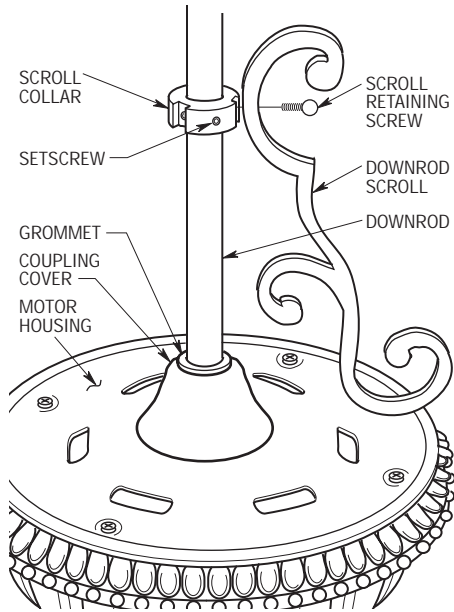

Figure 9
- 14. Make sure the grommet is properly installed in the coupling cover, then slide the coupling cover over the downrod until it rests on the motor housing (Figure 9).
- 15. Unscrew the three scroll retaining screws from the scroll collar. Using the hex wrench (supplied), unscrew the setscrew in the scroll collar until it clears the inside of the collar. Slide the collar over the downrod (Figure 9), and position the collar 7 or 8-inches above the coupling cover, then tighten the setscrew.
- 16. Align one downrod scroll with one of the slots in the scroll collar and secure the scroll in place using a scroll retaining screw (previously removed) (Figure 9). Repeat this procedure for the remaining two downrod scrolls.
- 17. Loosen the setscrew and slide the scroll collar down the downrod until the decorative scrolls rest upon the top of the motor housing (Figure 9). Tighten the setscrew.